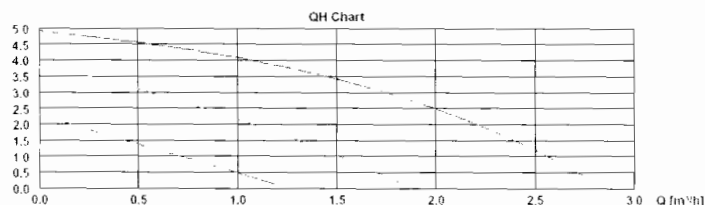

Figure 20
15.9 The boiler's integral pump is factory set to its maximum speed setting to give a 1000 l/hr flow on a nominal 4m head. The pump may be adjusted to a lower speed to match the designed c/heating system requirements. (*figure 20*)